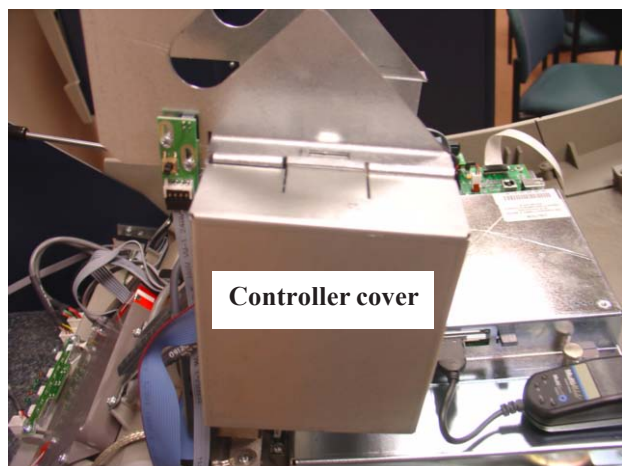

Figure 1. Remove cover.
1. Enter **Management Functions > System Parameters > Shut Down the Terminal**. When prompted “It is now safe to turn off your computer” on the screen, open the control panel and turn the power switch on the power supply to the <OFF> (0) position.
2. Remove the receipt paper and spool from the printer assembly. Remove the printer controller board cover shown in Figure 1.